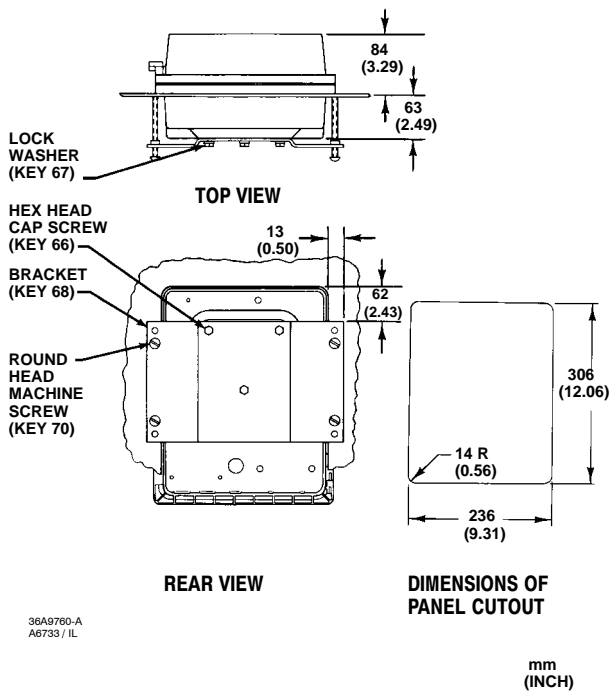

Figure 2-3. Panel Mounting
Using the dimensions shown in figure 2-3, cut a hole in the panel surface. Slide the controller into the hole and attach the bracket (key 68) to the rear of the controller using three cap screws (key 66) and lock washers (key 67). Tighten the screws (key 70) to seat the case snugly and evenly against the panel surface.